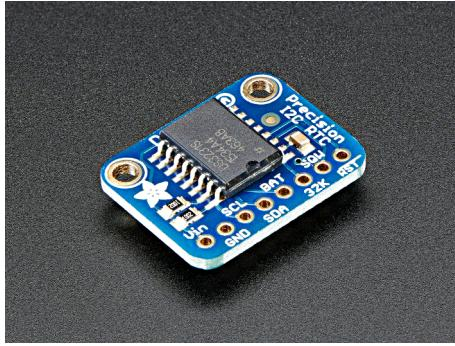

Figure 44: The DS 3231 hardware clock from Adafruit. Photo taken from [www.adafruit.com](http://www.adafruit.com).
- A DS 3231 precision hardware clock from Adafruit; this is a battery powered clock featuring temperature compensation. Fig. 44 shows this component which is about 15 €. A CR1210 battery is also needed.